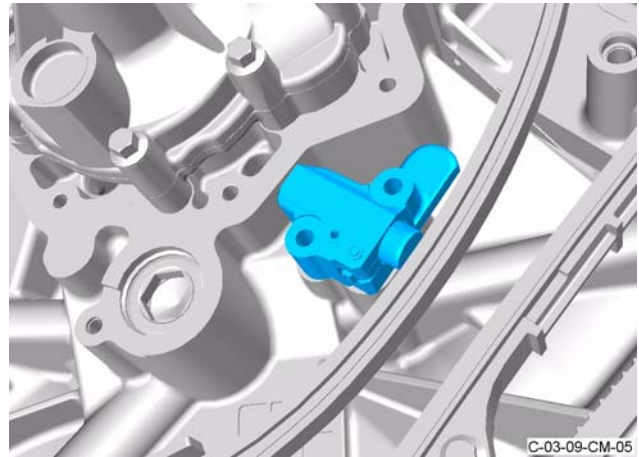

Figure 19
3. Install the timing chain tensioner (refer to Figure 19).